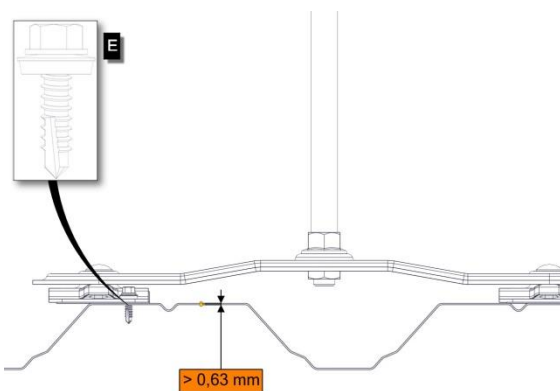

Figure 6. Installation on sheet using screws
- For trapezoidal sheets with a thickness greater than 0.63mm or equal, both screwing and riveting of the post to the sheet can be applied **Figure 6**